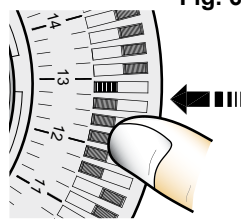

Fig. 6
1. Using your finger tip or the tip of a pencil, push in as many segments as necessary around the dial, according to the times you don't require heat - see Fig. 6. Each segment pushed in switches the heater OFF for that part of the hour. All other segments will be 'ON'.